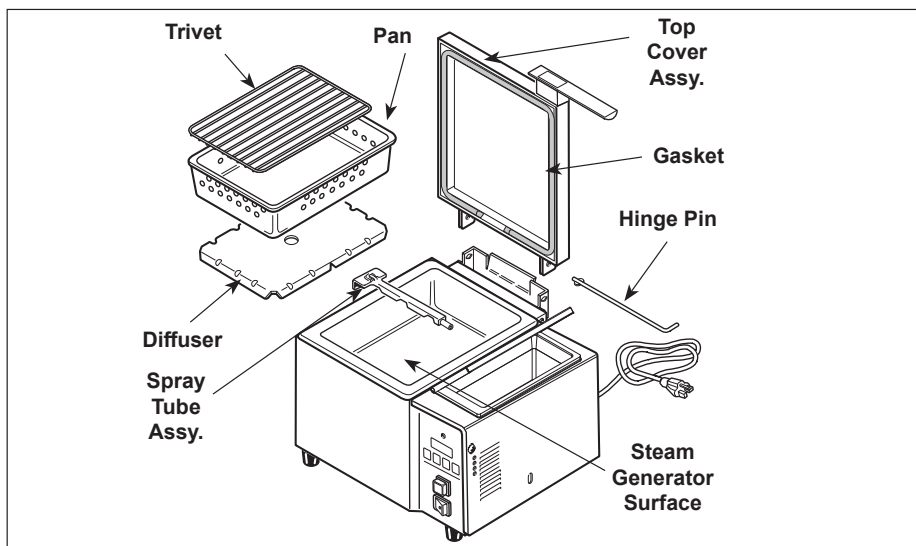

Figure 6. Deluxe Food Warmer Components (DFW-150 Shown)
NOTE: Pressing and holding the operate button for longer than 1 second at a time, and/or too often (before 20 seconds), will flood out the Generator surface (Figure 6) and result in poor steaming.
3. Remove the trivet and pan (Figure 6).
5. Wipe down the top cover, gasket, and the entire exterior of the unit (Figure 6) with a clean, hot, damp cloth (not dripping wet) and wipe dry.
3. Remove the spray tube (Figure 6) by lifting the loose end and pulling it out of the generator hole.
6. Use a scraper or spatula to remove the excessive calcium/mineral buildup from the generator surface (Figure 6).